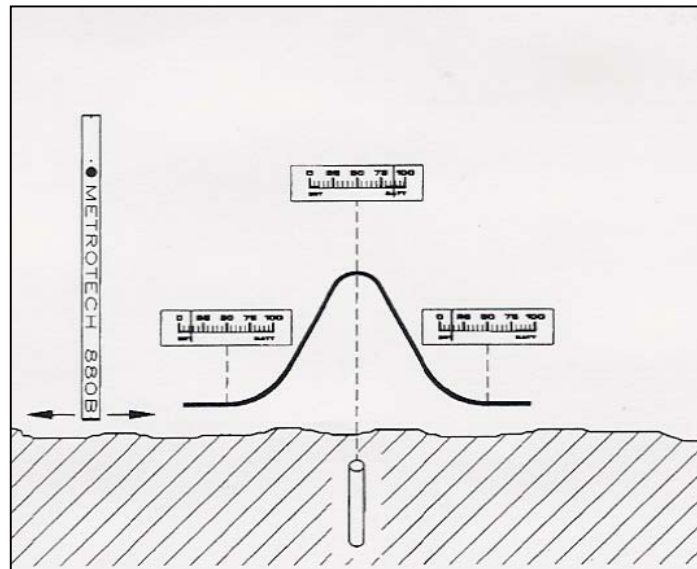

Figure 4-1: Typical Peak Reading
- 4) When the 880B approaches a ferrous target, the audible tone will increase, corresponding to the increase shown on the meter. See Figure 4-1 on page 6. If there is no indication of a signal, increase the sensitivity and search the area again.